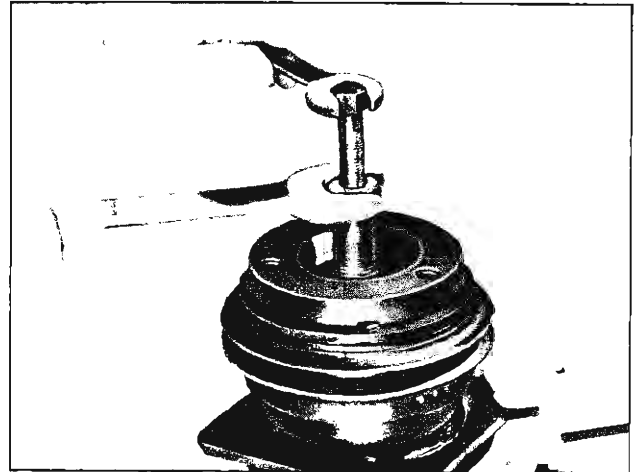

Fig. 25—Removing Hub and Drive Plate Assembly
3. Tool J-9401 may now be used to remove the hub and drive plate assembly (fig. 25).